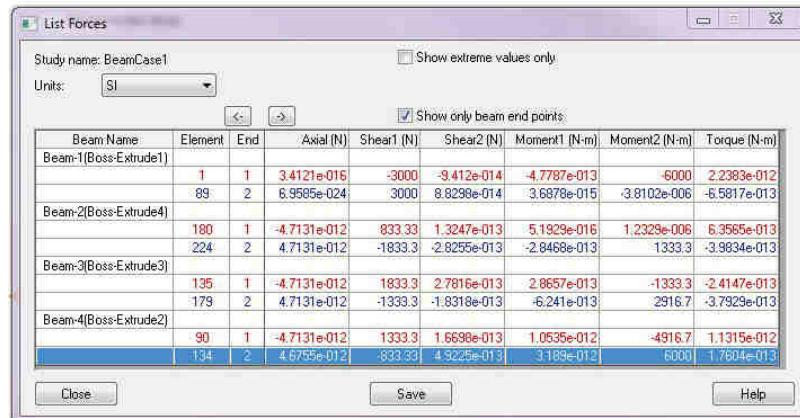

Fig. 6.13
- În caseta PropertyManager, sub **Display**, fig. 6.13:
- In the PropertyManager, under **Display**, fig. 6.13: